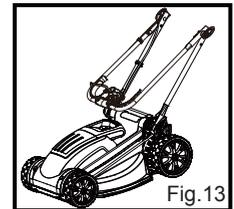

Fig. 13
Storing the Mower (See Fig. 13)
- Fold the upper handle and lower handle assembly over the device housing. Making sure that the cables do not become trapped (Fig. 13).